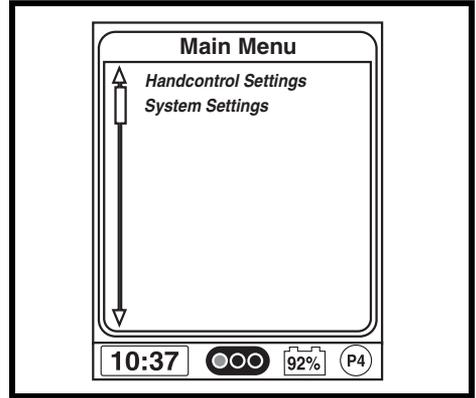

Figure 10. Main Menu Screen
2. Push the Menu button to access the Main Menu screen. **See figure 10.**
2. Push the Menu button to access the Main Menu screen. See **figure 10**.